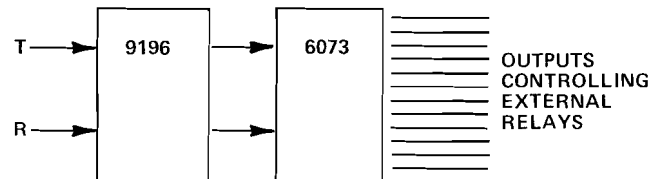

figure 3. Typical remote-control application
2.04 The 6073 module can be used in a variety of applications requiring telephone-accessed remote control of external devices. Figure 3 shows a typical remote-control application which uses a Tellabs 9196 Loop-Start Access Module to provide automatic-answering capability for the 6073. In this